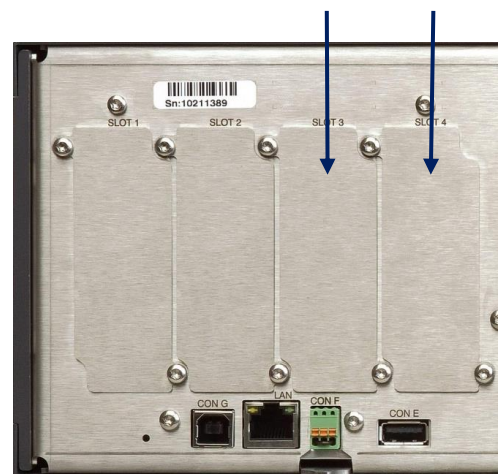

fig 4 - 1
- See figure 4 - 1 for location of the slots.